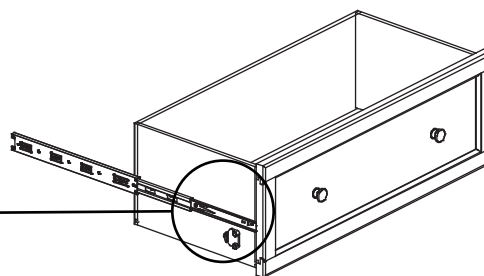

Fig. 3
3. If you need to remove your drawers, pull up on the left Drawer Release Lever while pushing down on the right Drawer Release Lever and pull out the drawer. See Figures 3 and 3a. Note where each drawer came from to make sure you place them back into their correct positions.